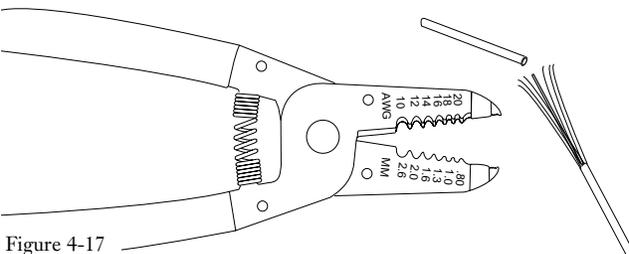

Figure 4-17
**4.5-3** Refer to Table 1 on page 38 for the correct AWG opening and strip off the 40-mm section of outer jacket with the buffer stripping tool (Figure 4-17).